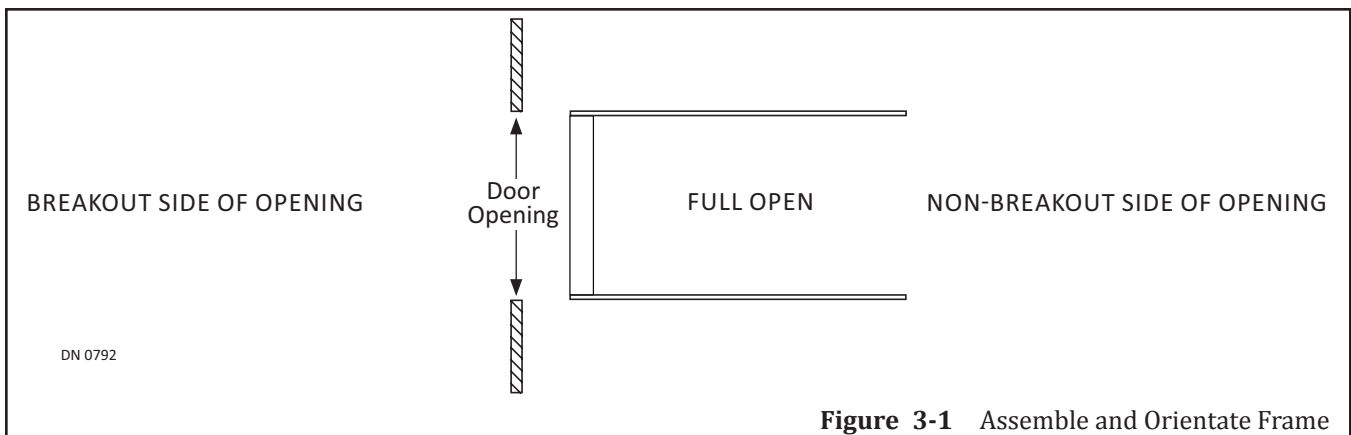

Figure 3-1 Assemble and Orientate Frame
2. Position Jamb tubes on either side of the Header according to the instruction sticker located on each Jamb tube that shows proper location and orientation. Please see Figure 3-1.